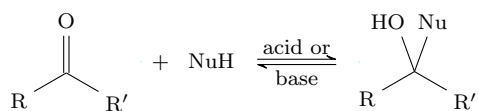

Figure 16.7: The key mechanism in CHEM 22200.
- The two(-ish) most important mechanisms in CHEM 222 are Figure 16.7 promoted either by acid or base.